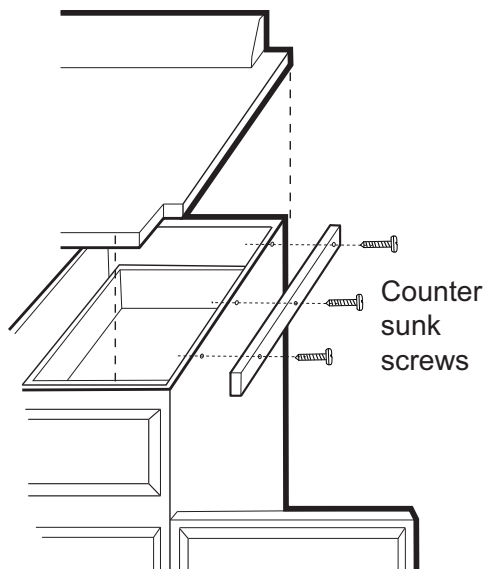
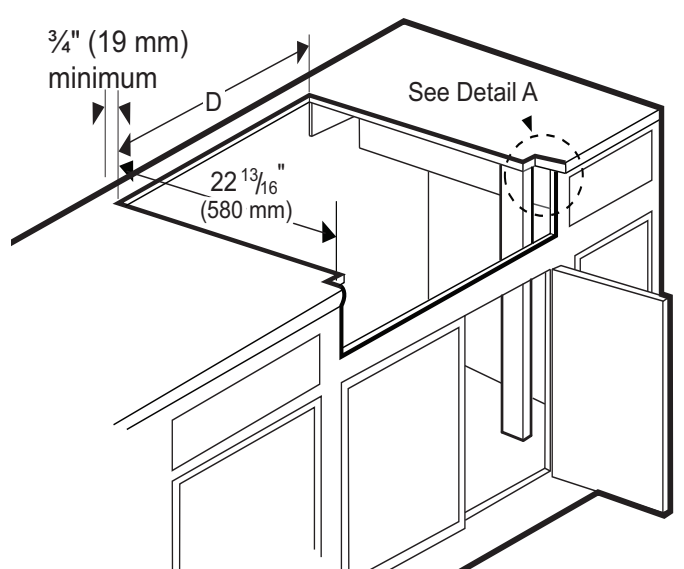

Figure 2: Installing Side Supports (both sides)
Figure 4: Island Installation (No Countertop Backsplash)
3. The rangetop is designed to hang from the countertop by its side flanges. The countertop however, must be strong enough to support this rangetop. It may be necessary to add a supporting cleat along each side (see *Figure 2*) or a 2 x 4 corner brace (see *Figure 3* and *Figure 4* and Detail A). Another alternative would be to construct a deck to set the rangetop on.
4. The rangetop can be installed in various positions with the front either flush or projecting, depending on the countertop's depth. (See *Figure 5*, side view of rangetop; see *Figure 3*, *Figure 4*, *Figure 6* and *Figure 7* for alternate mounting positions.)
- Island installation, see *Figure 4*.
- If a solid side cabinet wall exists on one or both sides, you will need to notch the front corner of the cabinet to match the countertop notch and to allow clearance for the rangetop front (see Detail A, *Figure 3* and *Figure 4*).